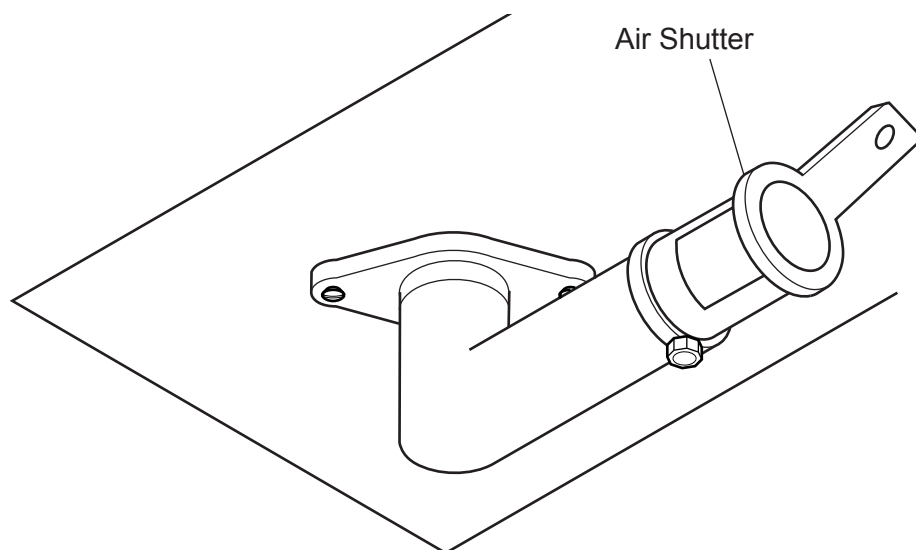

Figure 39 - Pull Adjustment Lip Down to Close Air Shutter
- To decrease air mixture, close the shutter. Flames will be more yellow. *See Figure 39.*